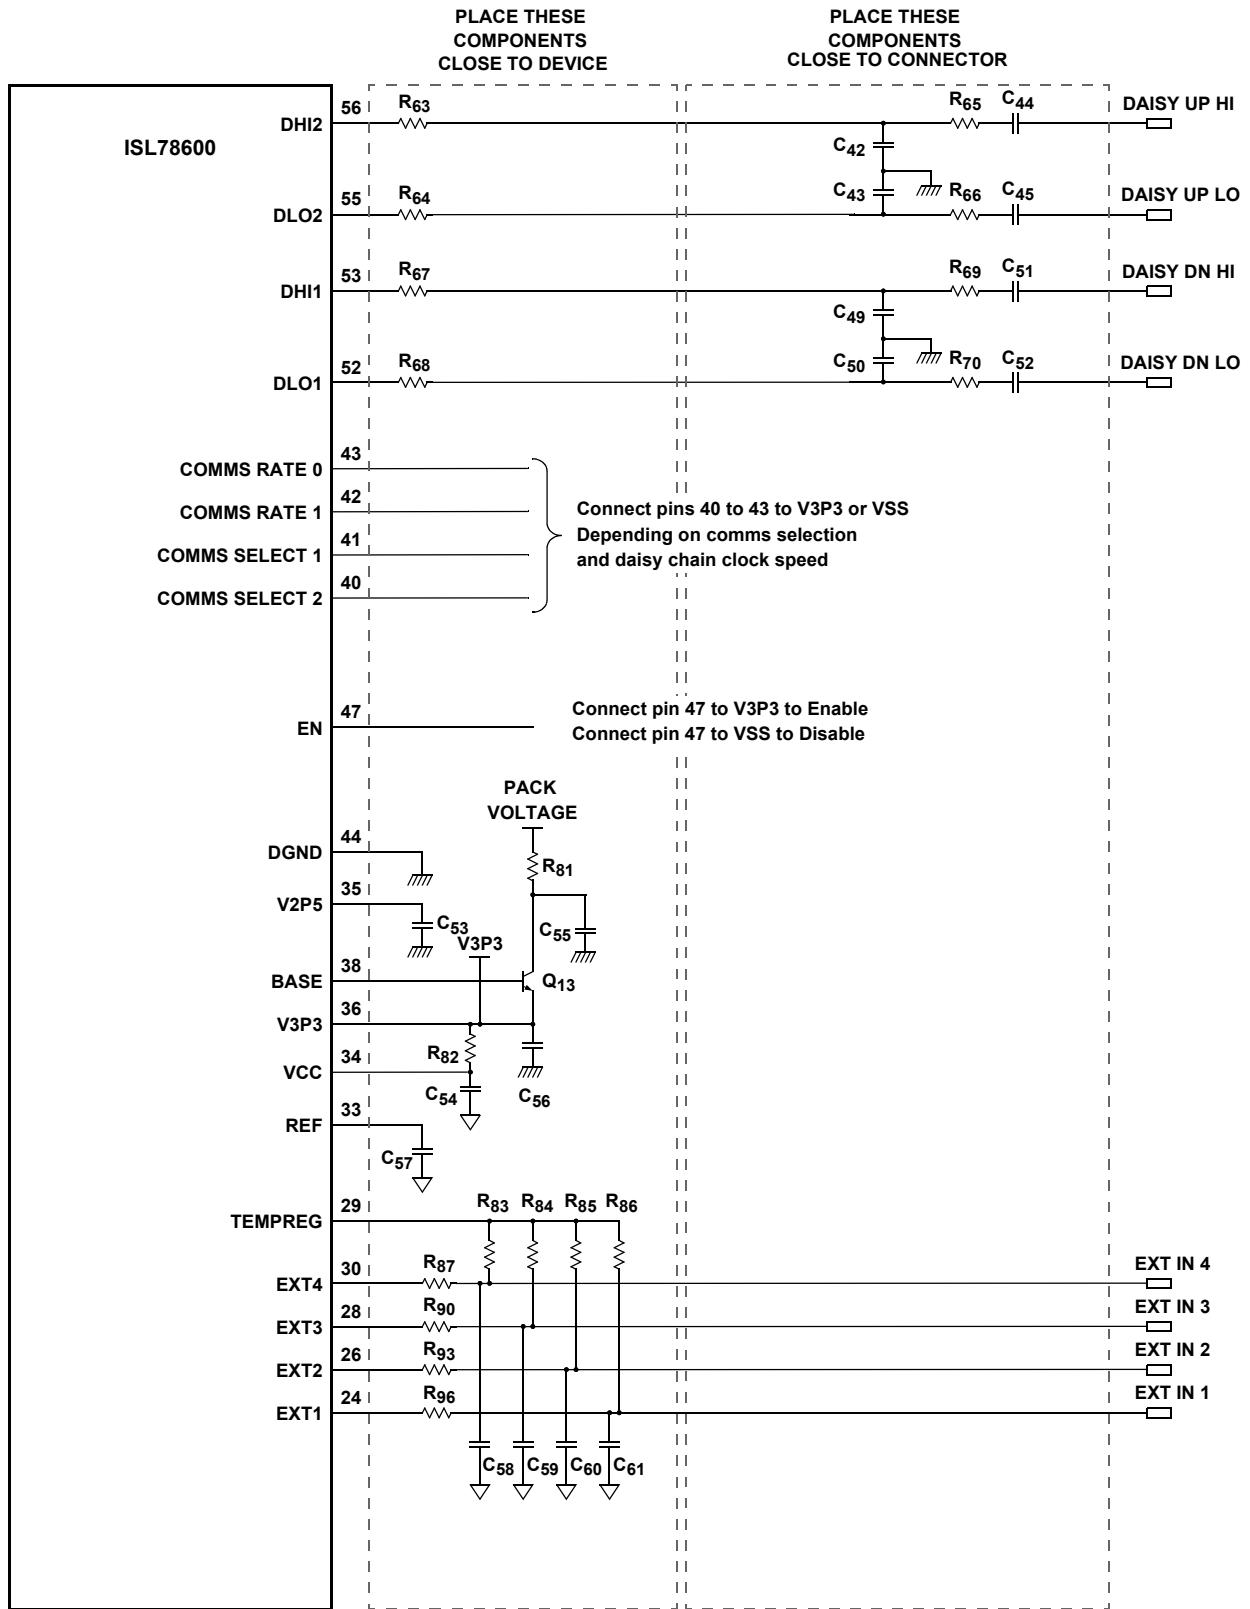
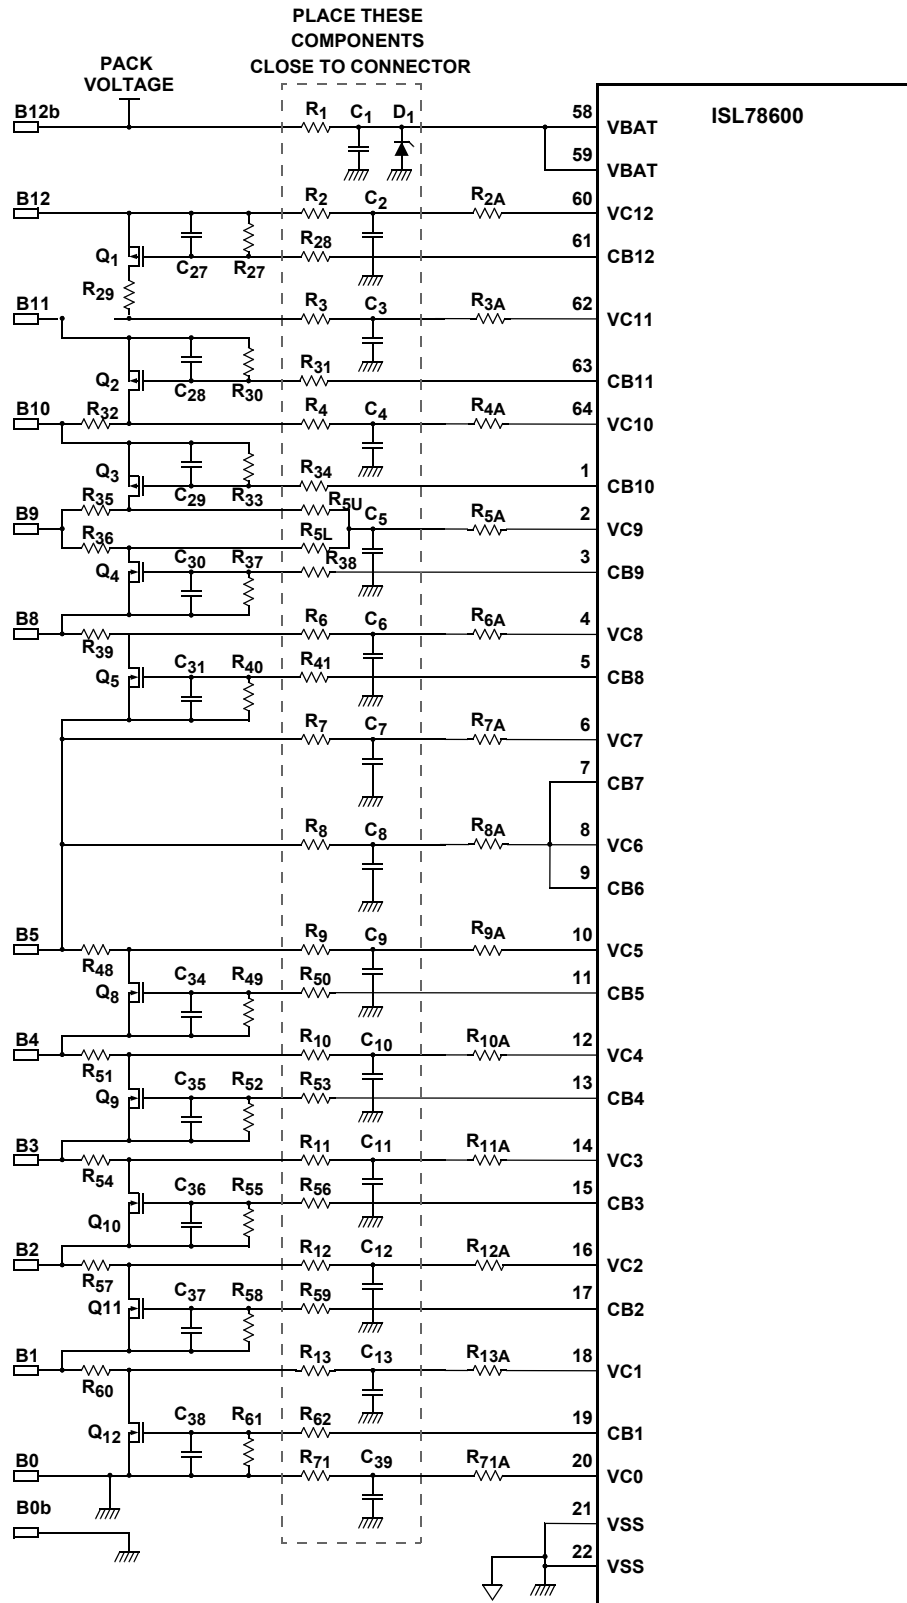
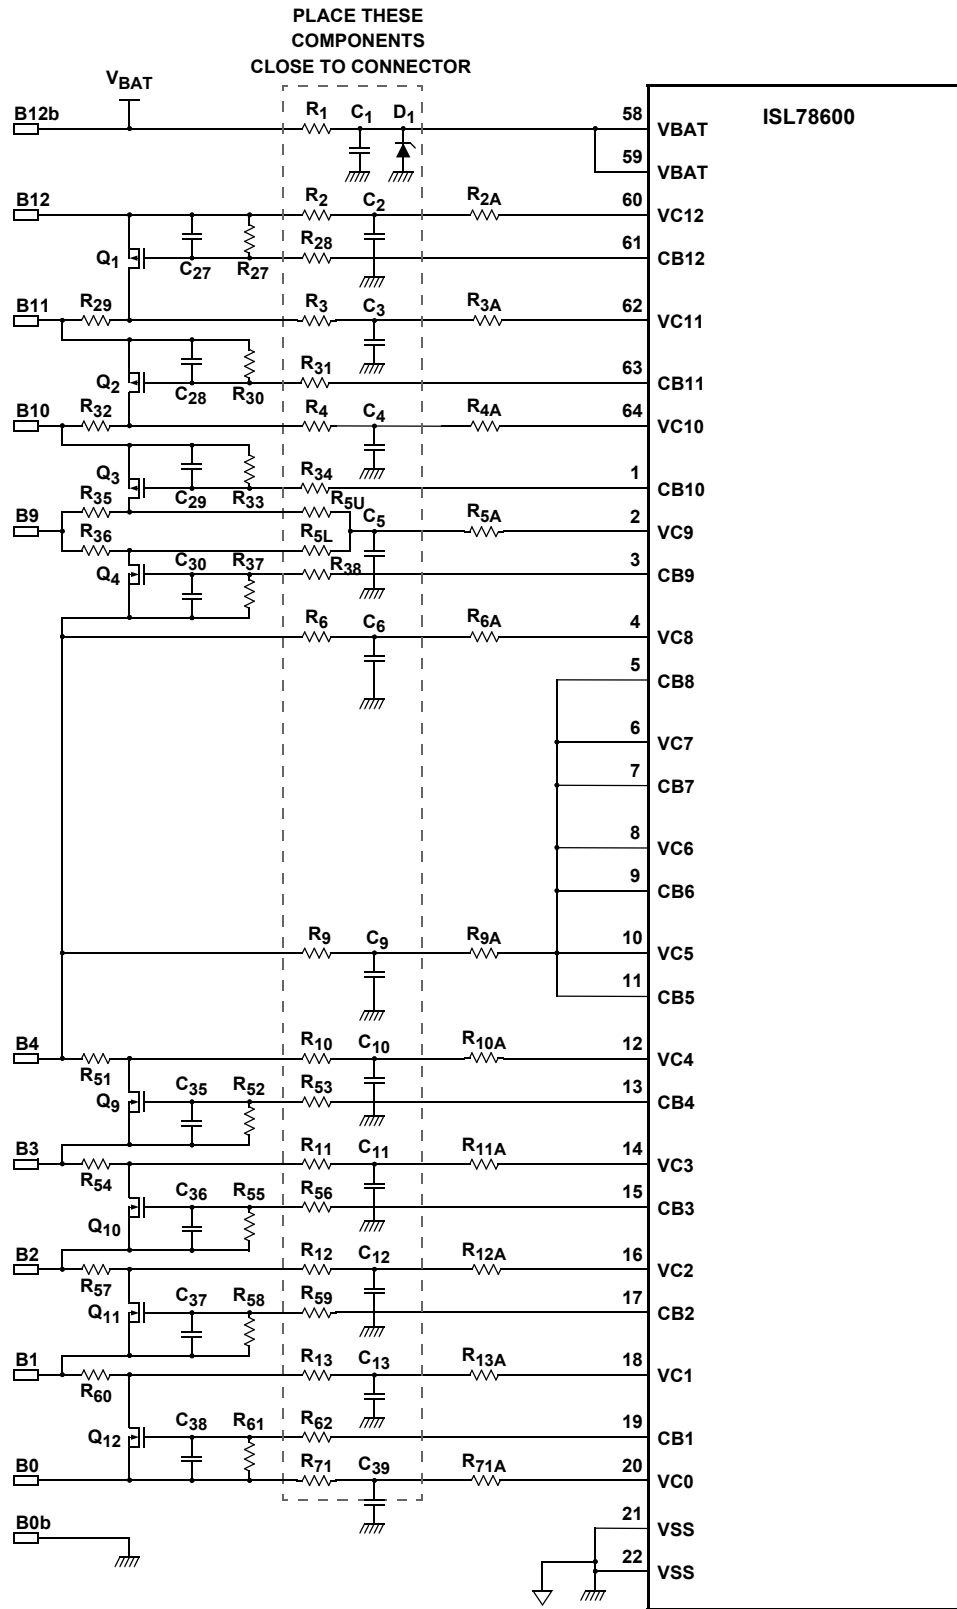
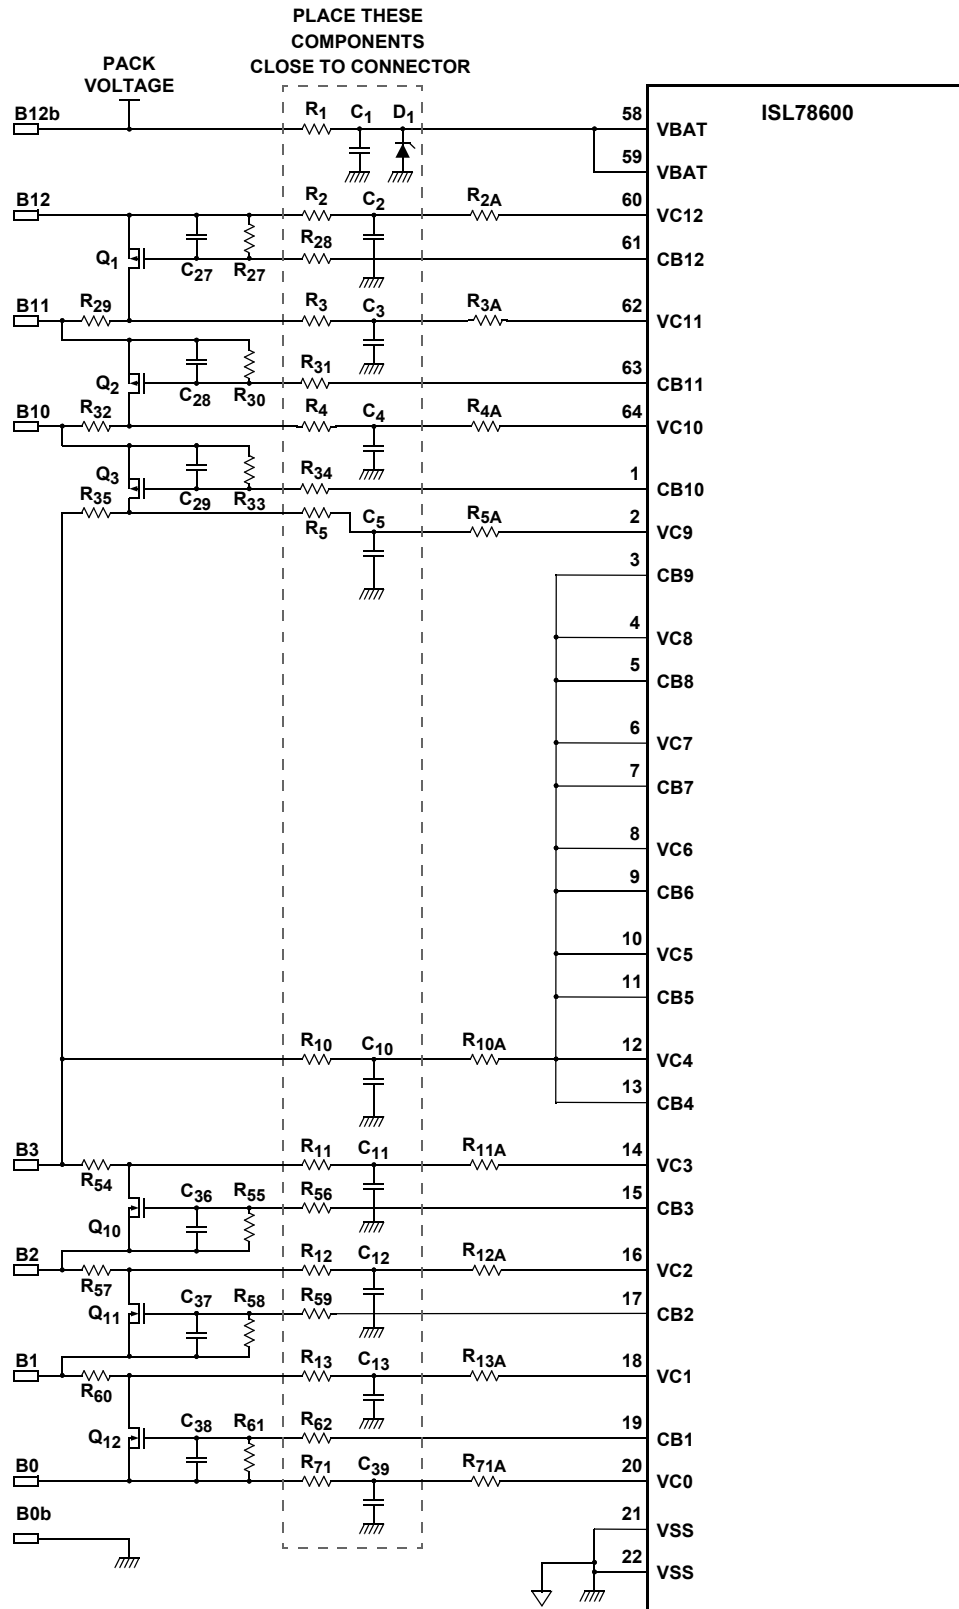

FIGURE 44. TYPICAL APPLICATIONS CIRCUIT - NON-BATTERY CONNECTIONS, MIDDLE AND TOP DAISY CHAIN DEVICES
FIGURE 47. TYPICAL APPLICATIONS CIRCUIT - BATTERY CONNECTION CIRCUITS, SYSTEM WITH 10 CELLS
FIGURE 48. TYPICAL APPLICATIONS CIRCUIT - BATTERY CONNECTION CIRCUITS, SYSTEM WITH 8 CELLS
FIGURE 49. TYPICAL APPLICATIONS CIRCUIT - BATTERY CONNECTION CIRCUITS, SYSTEM WITH 6 CELLS
Typical application circuits are shown in Figures 44 through 49. Table 8 on page 41 contains recommended component values. All external (off-board) inputs to the ISL78600 are protected against battery voltage transients by RC filters, they also provide a current limit function during hot plug events. The ISL78600 is calibrated for use with 1k $\Omega$  series protection resistors at the cell inputs.  $V_{BAT}$  uses a lower value resistor to accommodate the  $V_{BAT}$  supply current of the ISL78600. A value of 27 $\Omega$  is used for this component. As much as possible, the time constant produced by the filtering applied to  $V_{BAT}$  should be matched to that applied to the Cell 12 monitoring input. Component values given in Table 8 produce the required matching characteristics.
Figure 44 on page 35 shows the standard arrangement for connecting the ISL78600 to a stack of 12 cells. The cell input filter is designed to maximize EMI suppression. These components should be placed close to the connector with a well controlled ground to minimize noise for the measurement inputs. The balance circuits shown in Figure 44 provide normal cell monitoring when the balance circuit is turned off, and a near zero cell voltage reading when the balance circuit is turned on. This is part of the diagnostic function of the ISL78600.
Figure 47 on page 38 shows an alternate arrangement for the battery connections in which the cell input circuits are connected directly to the battery terminal and not via the balance resistor. In this condition the balance diagnostic function capability is removed.
The input circuit component count can be reduced in cases where fewer than 10 cells are being monitored. It is important that cell inputs that are being used are not connected to other (unused) cell inputs as this would affect measurement accuracy. Figure 47 on page 38, Figure 48 on page 39, and Figure 49 on page 40 show examples of systems with 10 cells, 8 cells, and 6 cells, respectively.
The component notations and values used in Figure 48 and 49 are the same as those used in Figures 44 through 47.
In Figure 49 the resistor associated with the input filter on VC9 is noted as R5, rather than R5U. This value change is needed to maintain the correct input network impedance in the absence of the Cell 9 balance circuits.
**TABLE 8. RECOMMENDED COMPONENT VALUES FOR FIGURES (Figures 44 through 49)**
Referring to Figure 44 on page 35 (battery connection circuits), the basic input filter structure comprises resistors  $R_2$  to  $R_{13}$ ,  $R_{71}$  and capacitors  $C_2$  to  $C_{13}$ ,  $C_{39}$ . These components provide protection against transients and EMI for the cell inputs. They carry the loop currents produced by EMI and should be placed as close to the connector as possible. The ground terminals of the capacitors must be connected directly to a solid ground plane. Do not use vias to connect these capacitors to the input signal path or to ground. Any vias should be placed in line to the signal inputs so that the inductance of these forms a low pass filter with the grounded capacitors.
A dual point failure in the balancing resistors ( $R_{29}$ ,  $R_{32}$ ,  $R_{35}$ , etc.) of Figure 44 on page 35 and associated balancing MOSFET ( $Q_1$  to  $Q_{12}$ ) could also give rise to a shorted cell condition. It is recommended that the balancing resistor be replaced by two resistors in series.